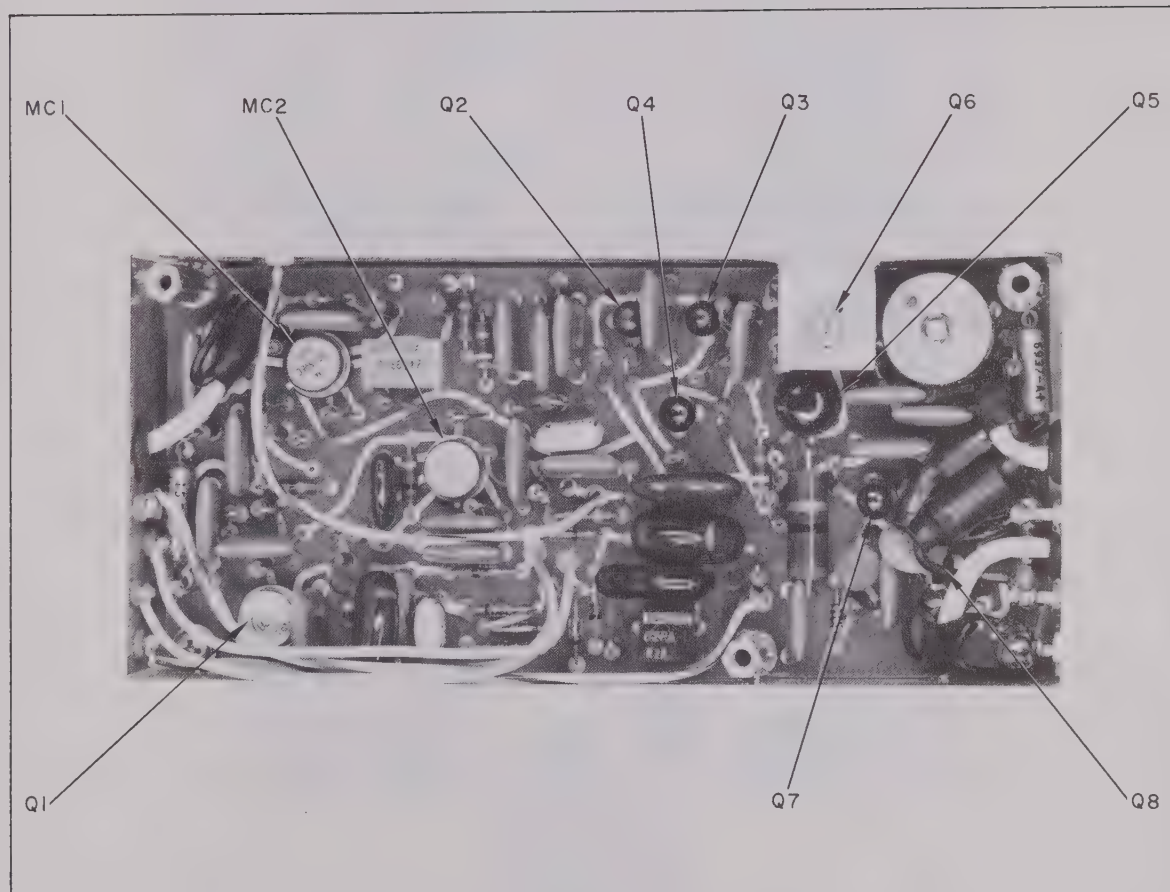

Figure 4-6. Power Amplifier Board A3
o. On SG-1000 set dBm 50 Ω control fully CCW. On SG-1001 adjust modulator balance potentiometer A3R10 (figure 4-6) to obtain the minimum output, no greater than -25 dB.